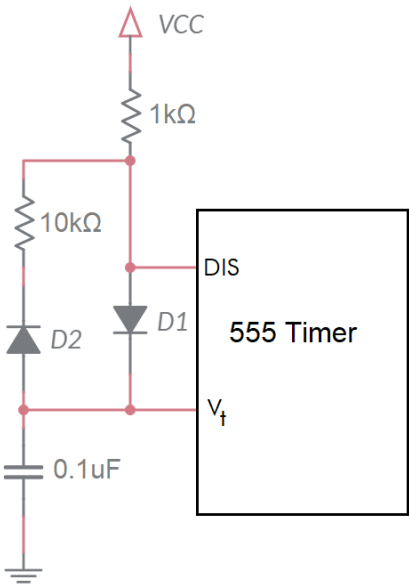

Figure 4: The circuit in Figure 1 with the 555 Timer replaced with the two signals examined in Figure 3.
With our new understanding of the 555 Timer, let’s return to the circuit shown in Figure 1 so that we can understand the role of the external components in the operation of the circuit. We will approach this question by replacing the 555 Timer with the V_t and DIS signals examined in Figure 3. The resulting circuit, shown in Figure 4, contains resistors, capacitors, a 555 Timer, and D1, D2, diodes. We will study diodes in much more detail later, but for now, consider them as circuit elements allowing current to flow in one direction as indicated by the triangle. So, for example, D1 will only allow current to flow downwards and D2 will only allow current to flow upwards.
Now, you will use the information from Figure 3 to determine to describe what the external circuit in Figure 4 functions like as V_t changes. Complete the sentence or write an expression for each of the bulleted items in questions 4 and 5. When two **bold** choices are separated by a “/”, replace them with the correct answer. Fill in underlines with values.
4. Determine the circuit behavior in Figure 4 when V_t is between 0V-3V.
5. Determine the circuit behavior in Figure 4 when V_t is between 6V-9V.